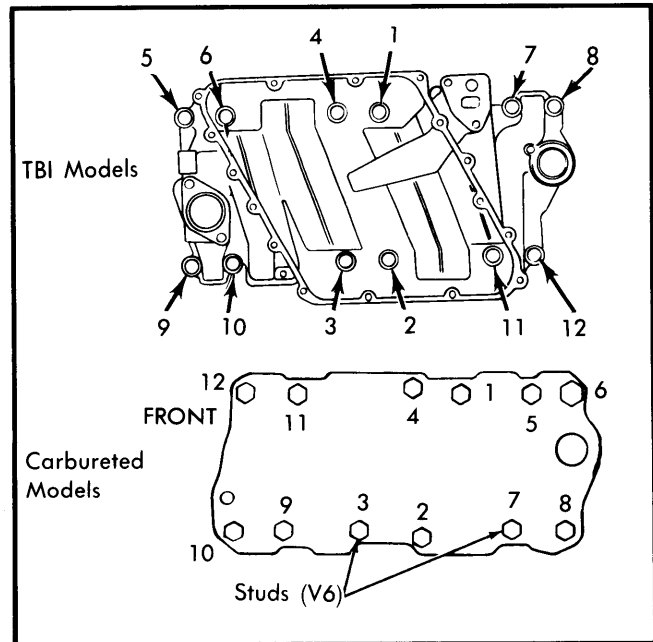

Fig. 1 Manifold Tightening Sequence
2) Use sealer at water passages also. Install manifold and bolts, tightening bolts in sequence. See Fig. 1. Reverse removal procedure to complete installation.